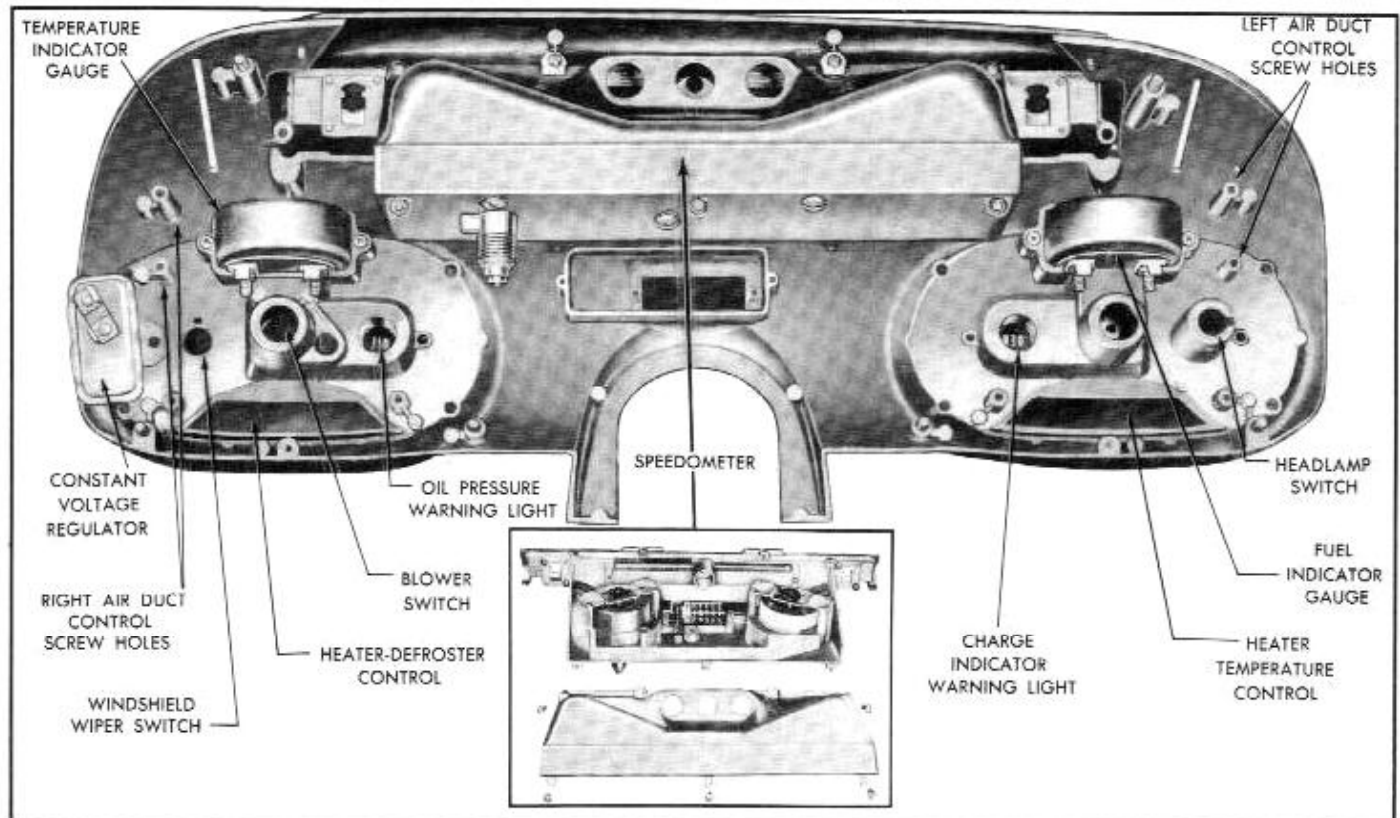

Fig. 11-11—Instrument Cluster—Rear View
4. Remove one screw securing constant voltage regulator to instrument panel. The regulator is located directly above the cigar lighter on the right side of the windshield wiper switch. See figure 11-11.